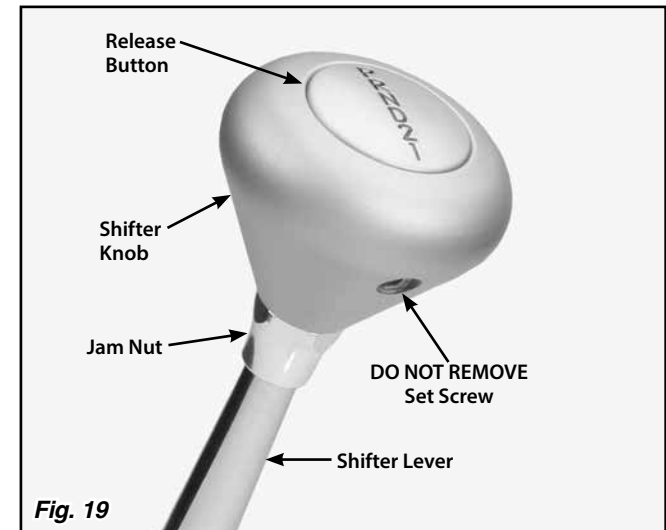

Fig. 19
- Step 2:** Loosen the jam nut below the shifter knob (turn the nut CLOCKWISE to loosen it). **DO NOT** loosen or remove the set screw in the knob. **Fig. 19**